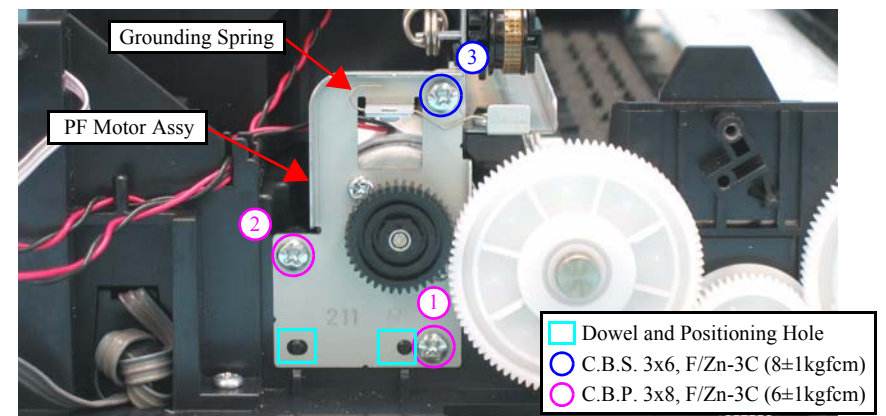

Figure 4-59. Removing the PF Motor Assy (2)
- Insert the dowels (x2) on the Base Frame into the positioning holes (x2) of the PF Motor Assy as shown in Figure 4-59.
- Tighten the screws in the order given in Figure 4-59.